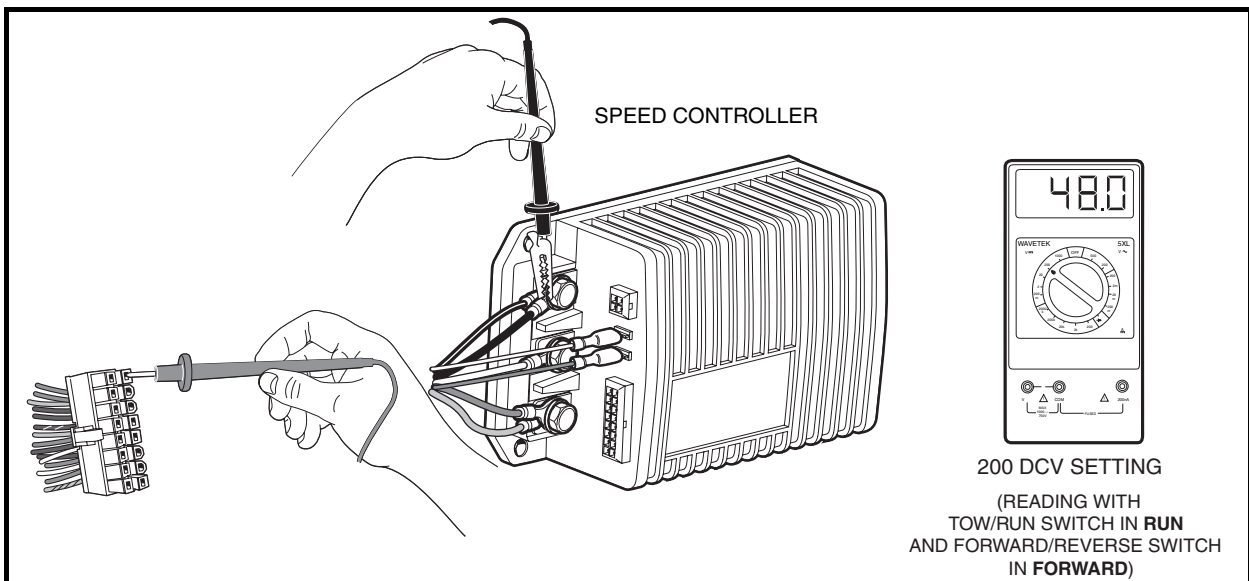

Figure 18-13 Pins 8 and 16 Test
4. Set a multimeter to 200 volts DC, insert the red (+) probe of the multimeter into pin 8 (brown wire) of the 16-pin connector. **See following CAUTION.** Using an alligator clip, connect the black (–) probe to the B–terminal of the speed controller (**Figure 18-13, Page 18-25**).